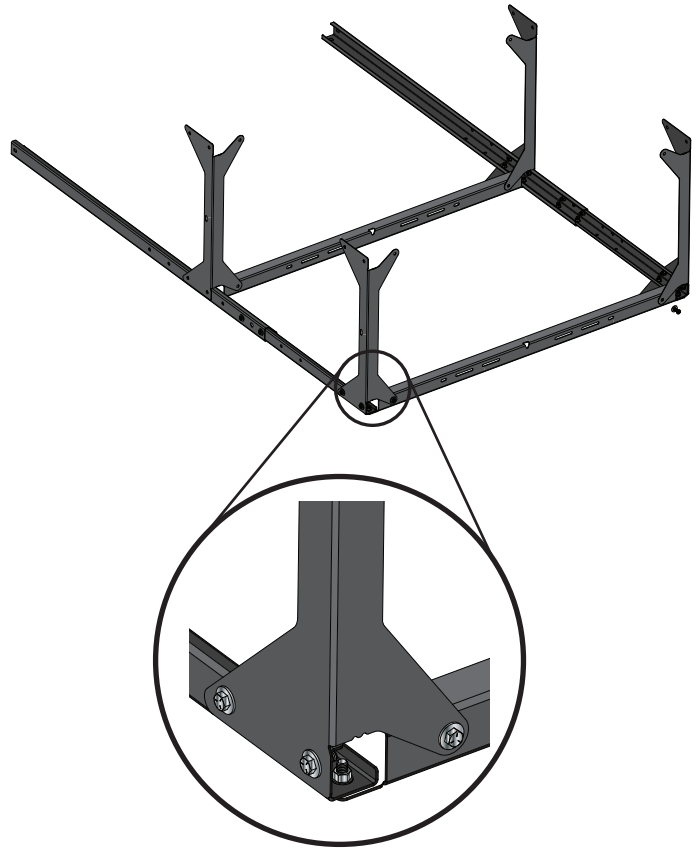

FIG. 4a
Flip the Assembly over and attach two Short Braces (E) to each Long Brace (C) so that its fins rest on top of the Brace and then secure in place using three Bolts (D2), three Washers (D3), and three Whiz-Nuts (D4) [FIG. 4a].